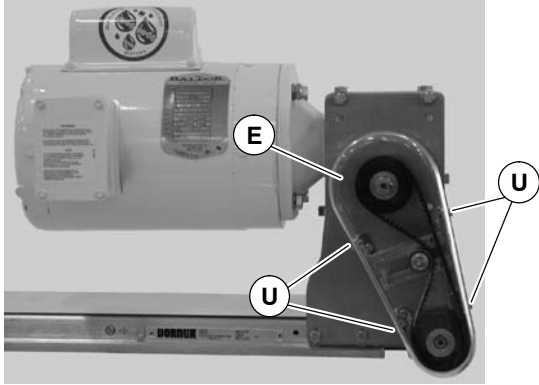

Figure 21
- Remove four (4) screws (U of Figure 21) and remove cover (E).
- Attach cover (E of Figure 21) with four (4) screws (U). Tighten to 35 in-lb (4 Nm).